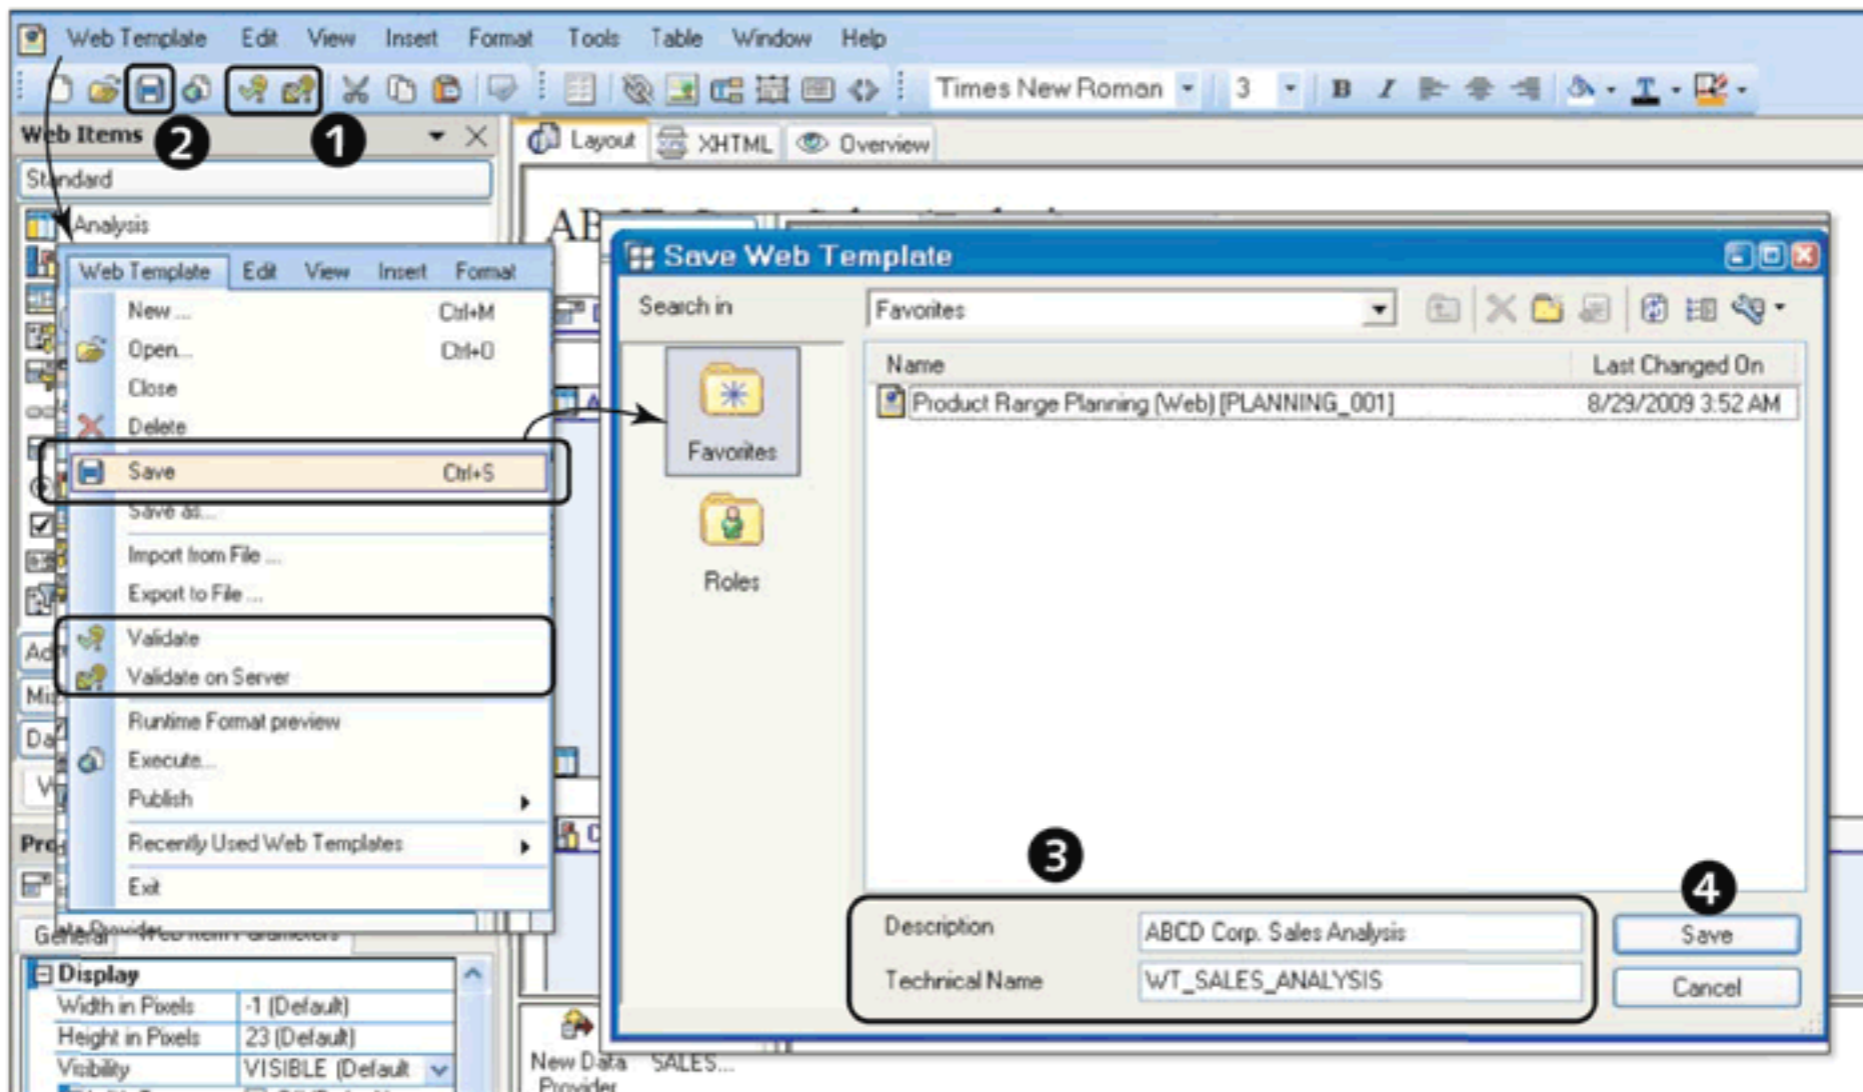

Figure 11.17 Validate and Save the Web Template
After the web template is designed, you can validate the definition of the web template using the options shown in ❶ of Figure 11.17. Use the VALIDATE option to validate the definition of the web template for consistency in the definition. The other option, VALIDATE ON SERVER, validates the web template definition as well as checks the consistency with respect to the data providers and other elements based on their definition on the server.
After the definition of the web template is validated, save the web template using the button shown in ❷ of Figure 11.17. You can also use the menu option WEB TEMPLATE • SAVE to save the template.